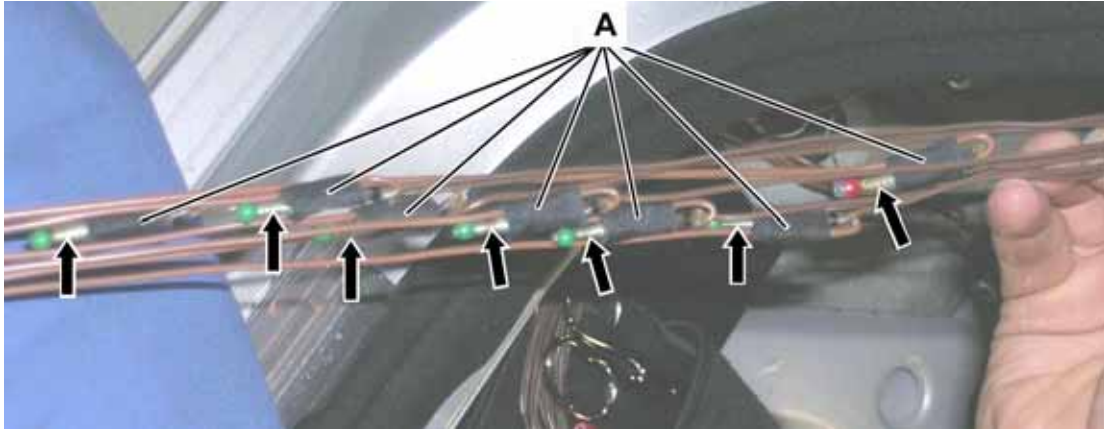

Figure 7
- After soldering, position the solder connectors (arrows, Figure 7) on the wire and wrap it in fabric tape (A, Figure 7).